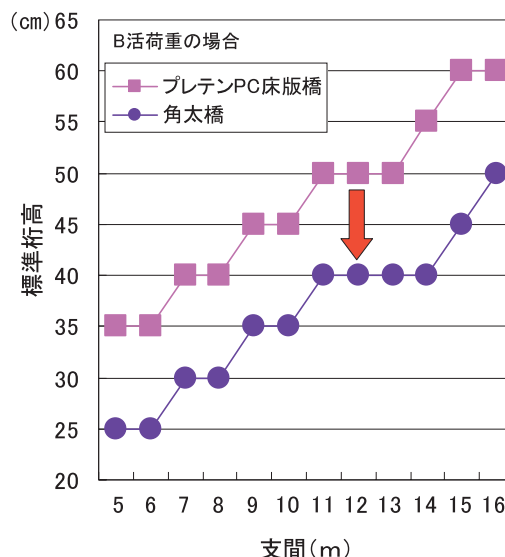

図3 角太橋とPC床版橋の桁高比較
1) 低桁高(図3参照)
Fig. 3 comparison of structure depth between kakutabashi and PC slab bridge